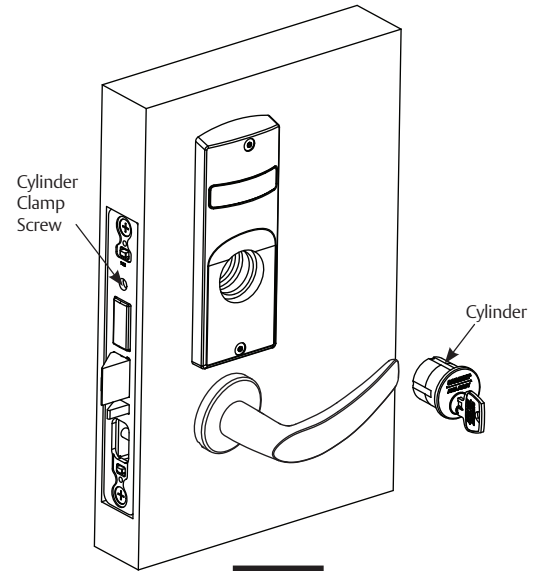

Figure 11
1. Thread cylinder into lock until flush with escutcheon surface. (Figure 11)